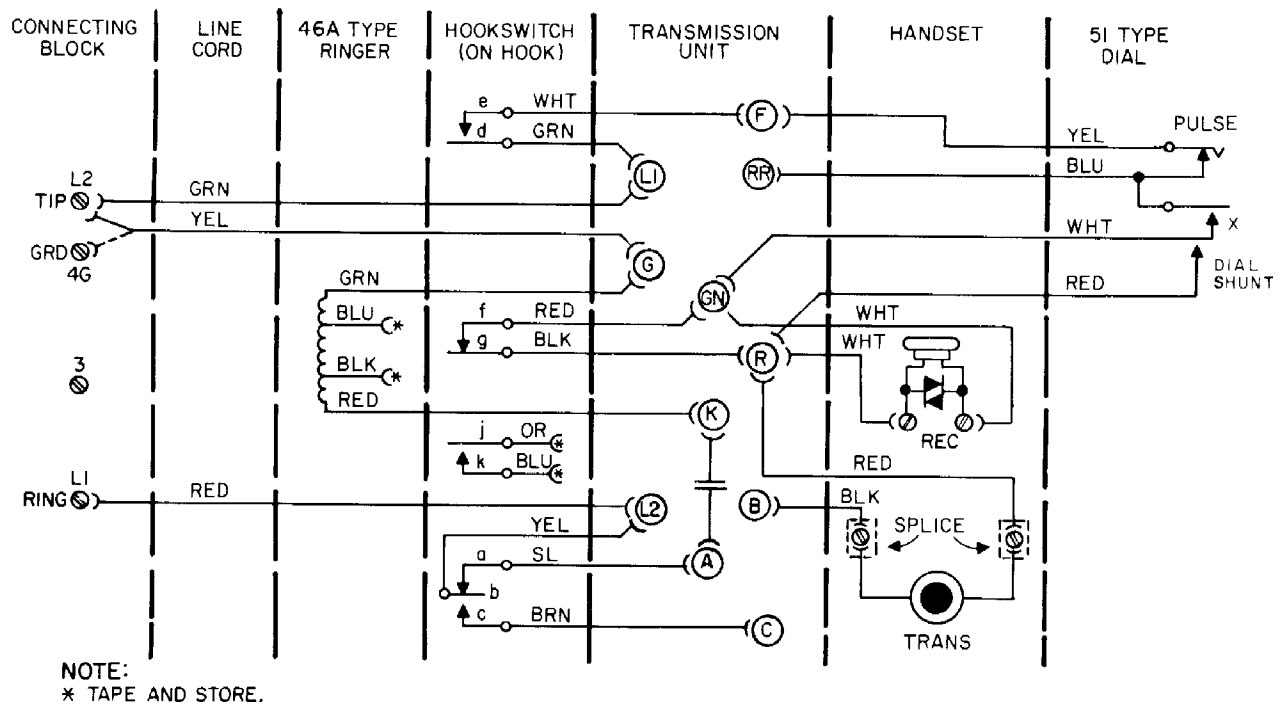

Figure 20. Wiring Diagram for GTE Automatic Electric Unit.
- (d) Using Table 15 and Figures 20 and 21 as a guide, connect the Type 151 ringer to either the Stromberg-Carlson or GTE AE unit.